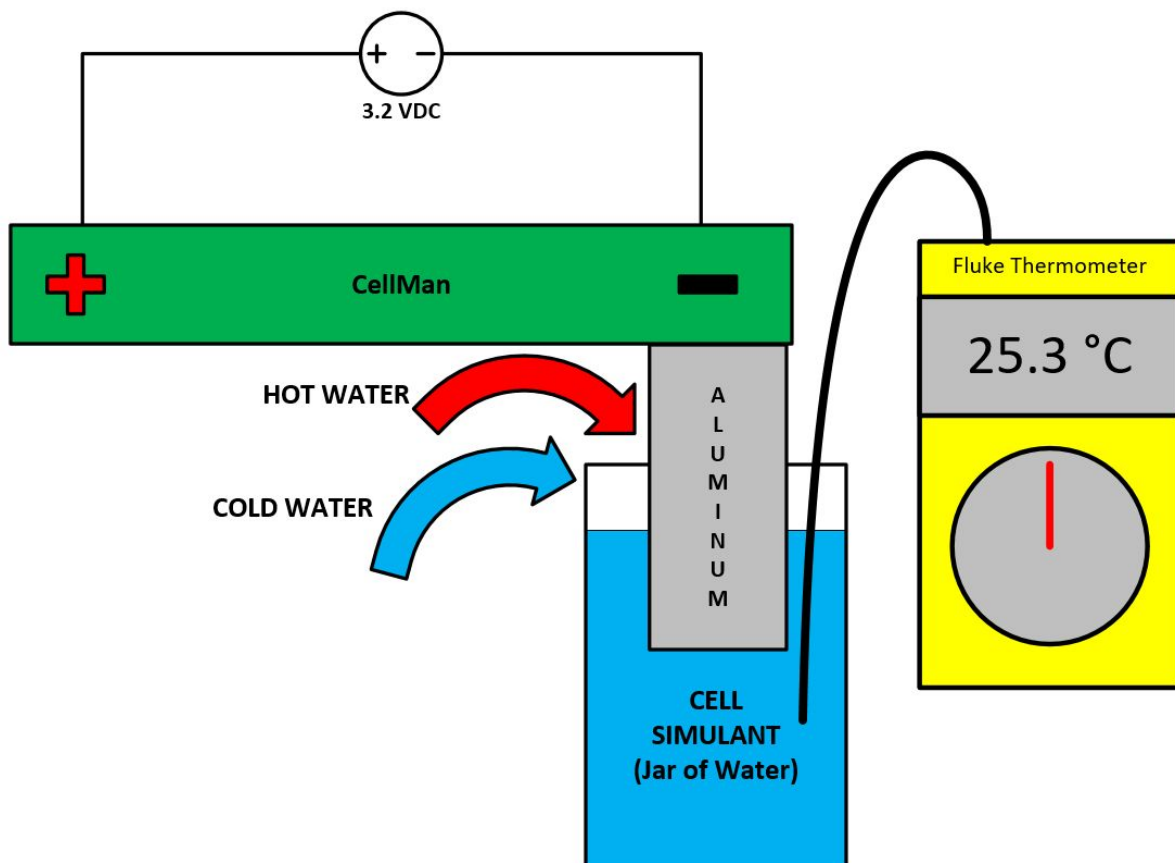

Figure 2 - TSV Prototype CellMan Configuration for Temperature Measurement Testing
- Summary: Measure 7 CellMan temperatures with the AMS with cell temperatures at ambient room temperature and near 40 °C and 60 °C. Set up each CellMan according to Figure 2.